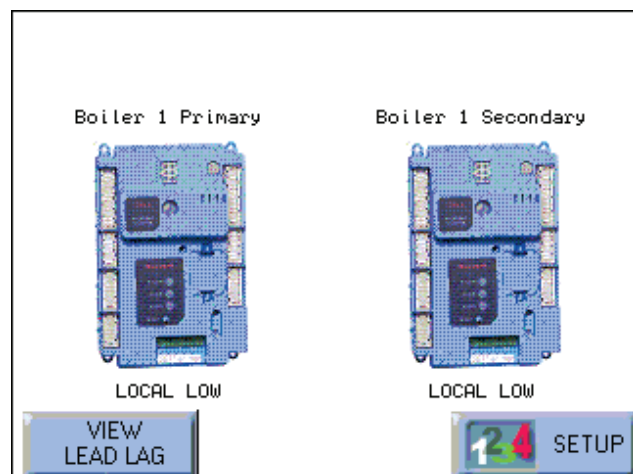

Fig. 61 – Home Screen
- From the Home screen (Fig. 61), press the icon for the controller you want to work with. In this example, we will start with the Secondary controller for Boiler 1, and make sure this is not set up as a Master.